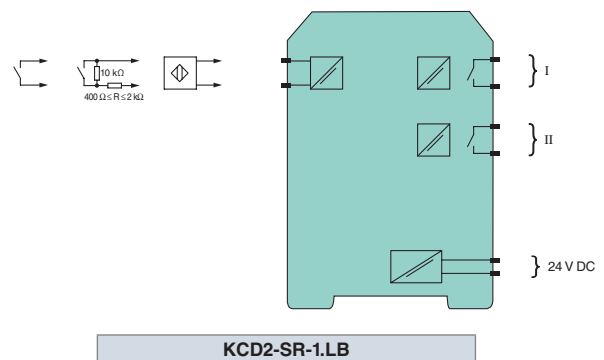

Figure 1
Figure 1 shows a typical application with a 1-channel switch amplifier. The signal conditioner shown is operated with a 24 V DC current source, however other options are also available. This device can be connected to a NAMUR sensor or a mechanical contact. A form A (NO) relay contact is available to connect the load to the control system.